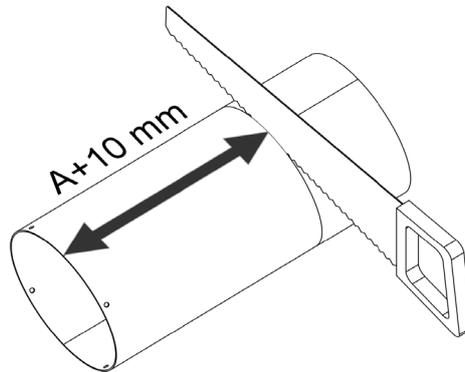

Figure 8 - Shortening of the Ø250 mm tube
The Ø250 mm tube (4) is sawed the length of  $A + 10$  mm, measured from the end of the tube with the 4 holes, see Figure 8 below.